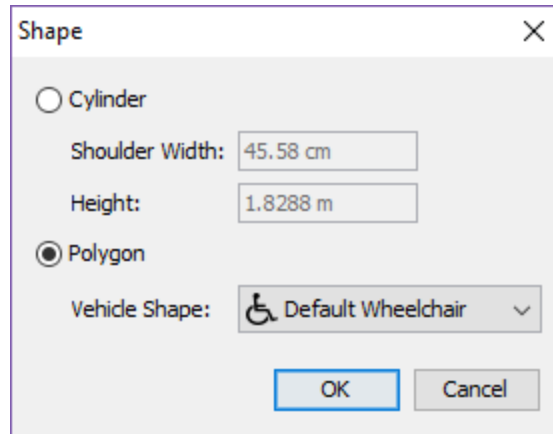

Figure 112. The Shape Dialog where a user may select a vehicle shape for a client
- Choose a **Vehicle Shape** for the client (see Section 5.1.8 and Figure 112) by editing the **Shape** parameter on the occupant properties panel. *All clients must have a vehicle shape* (see Section 5.2). Either choose a default shape or define a custom shape with user-defined positions for assistants.